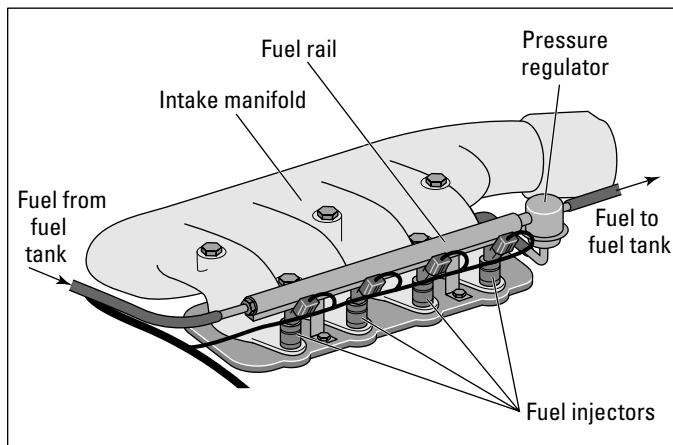

Figure 7-6: Fuel flows through the fuel rail to the injectors.
1. An electrical **fuel pump** pumps fuel from the **fuel tank** through a **fuel filter** to the **fuel rail assembly**, which carries fuel under pressure to the **fuel injectors** (see Figure 7-6).